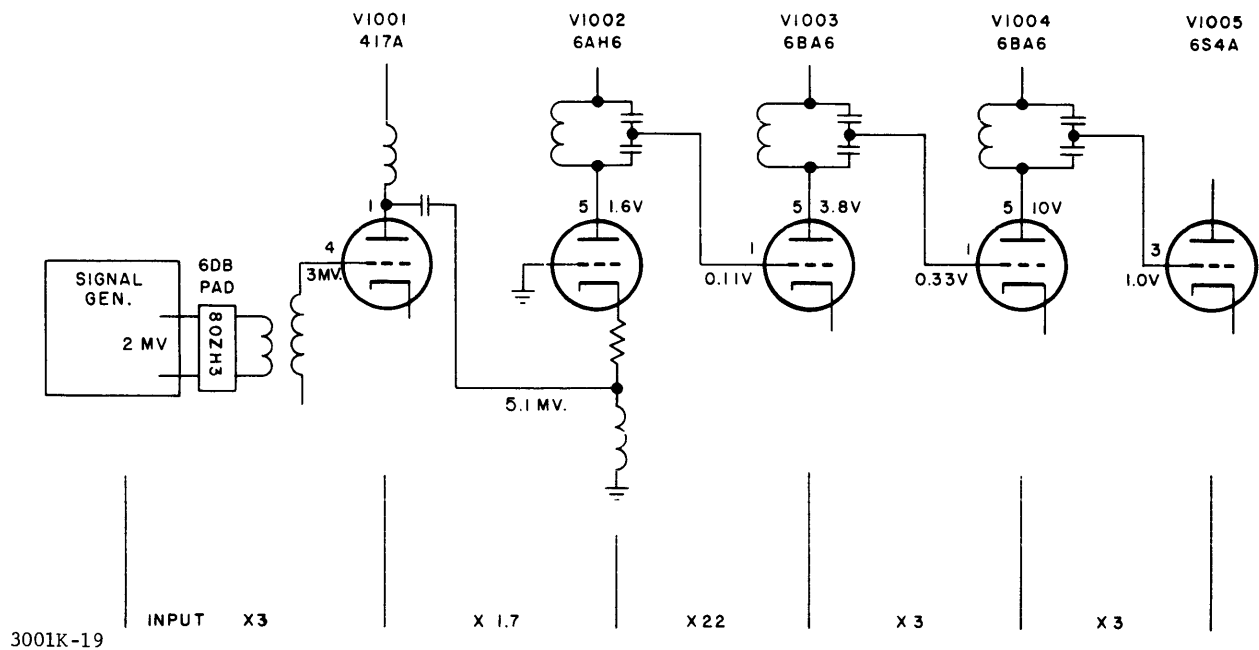

Figure 5-5. Gain of RF Stages
(4) Tune signal generator and HFR to test frequencies of each r-f band as listed in table 5-6. Simultaneously attenuate signal generator for VTVM reading of 1.0 v; input signal voltages should agree with those given in table 5-6.
(5) Use stage-by-stage gain illustration (figure 5-5) in conjunction with table 5-6 as an aid in locating troubles.